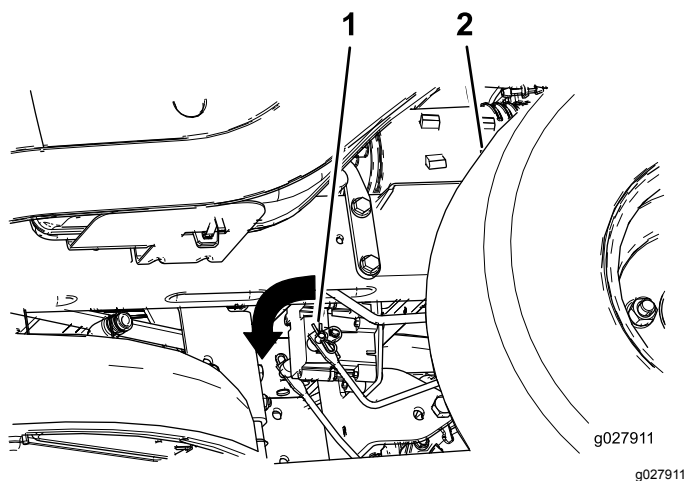

Figure 40
2. Locate the shafts where the brake-link arms are connected on both sides of the electric brake (Figure 40).